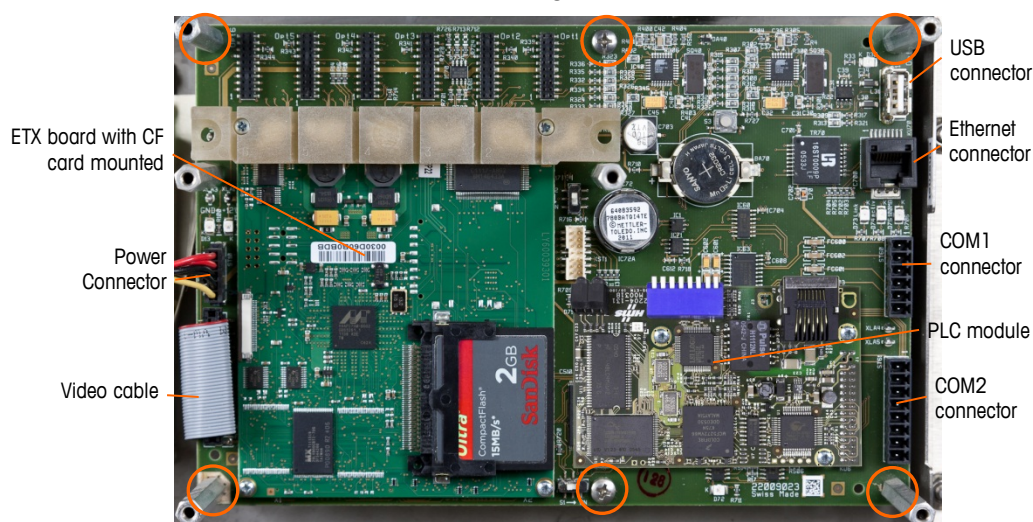
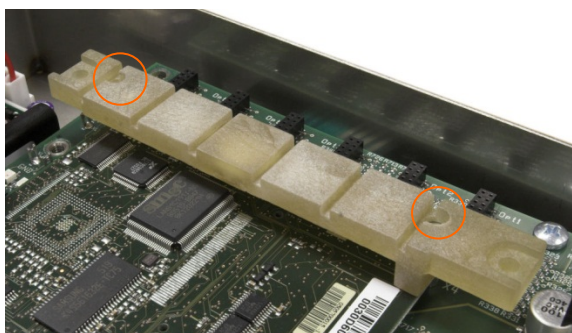
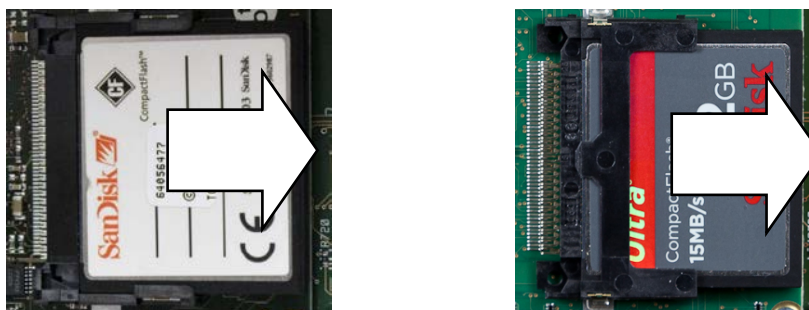

Figure 3-52: Main PCB Connections and Mounting Screws
Figure 3-55: Lower Card Guide Screw Locations
Figure 3-61: CF Card Removal – Original (left) and New (right) ETX
11. Remove all peripheral connectors from their sockets – COM1, COM2, Ethernet, USB, power and video. Connector locations are indicated in Figure 3-52.
13. Unscrew and remove the six screws holding the main PCB to the enclosure. Their locations are circled in Figure 3-52. In the case of a panel mount terminal, the four outer fasteners will be hex post stand-offs, as shown in Figure 3-53.
1. Remove the two screws holding the lower card guide and the ETX board to the main PCB (Figure 3-52). The locations of these screws are indicated in Figure 3-55.
1. Note the orientation of the ETX board indicated in Figure 3-52. The ETX connectors are arranged so that it cannot be installed backwards.
5. Install screws to secure the board to the main PCB. Two of these screws also attach the lower card guide. This bar is asymmetrical, and must be mounted in the orientation indicated in Figure 3-55. Note that the longer end is oriented toward the main PCB battery.
To remove a CF card from the ETX board, hold the sides of the CF card and carefully slide it out of its socket, in the direction indicated in Figure 3-61. It may be necessary to move the card slightly side to side to disengage it. If any PLC interface module option is installed, it may need to be removed first.
Note that Figure 3-61 shows the CF card in the same orientation as in Figure 3-52.